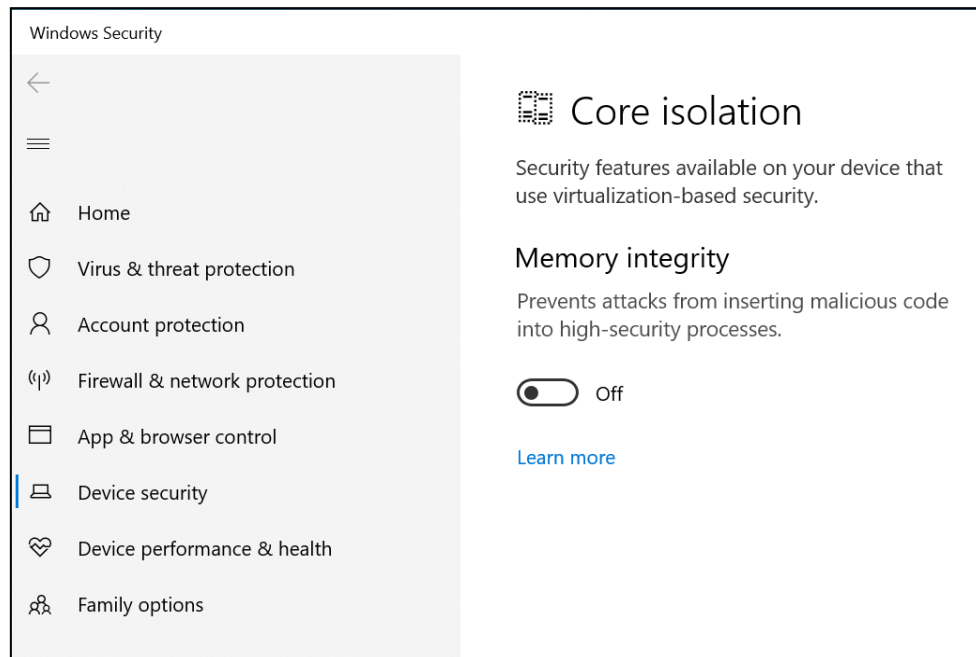

Figure 4.8 - Disabled core isolation
3. (Optional) If the **'TCRTIME' (200): start of real-time avoided by "HyperV"** message is displayed when running TwinCAT3, it is possible that HyperV is still used in virtualization-based security on your system. To disable it, type "core isolation" in your Windows search bar and disable Memory integrity. Refer to Figure 4.8 below.